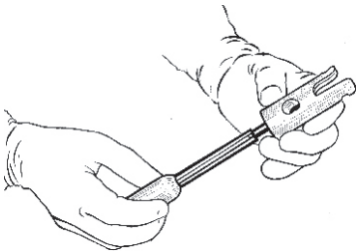

Figure 5 : Insert the Holder Handle into the Holder Head
1. Select the appropriate size Holder Head and insert the Holder Handle into the Holder Head (Refer figure 5).